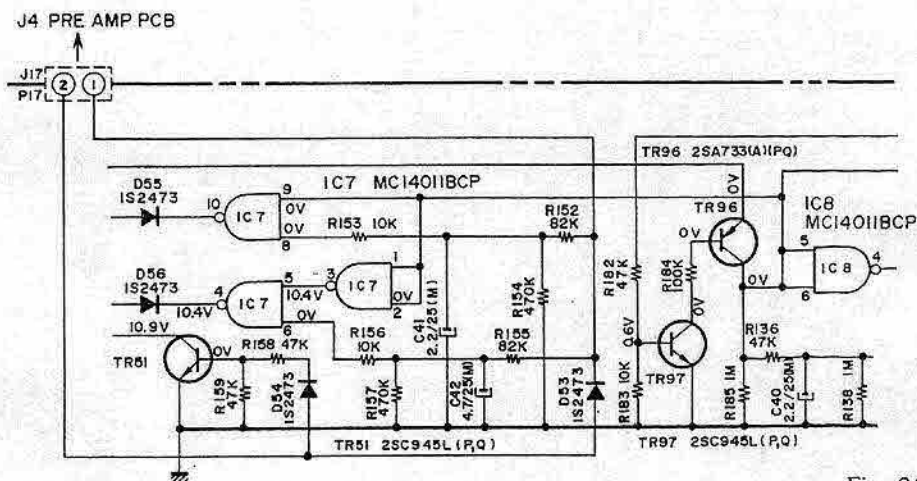

Fig. 26
g) Timer Starting Circuit. (Refer to Fig. 26)